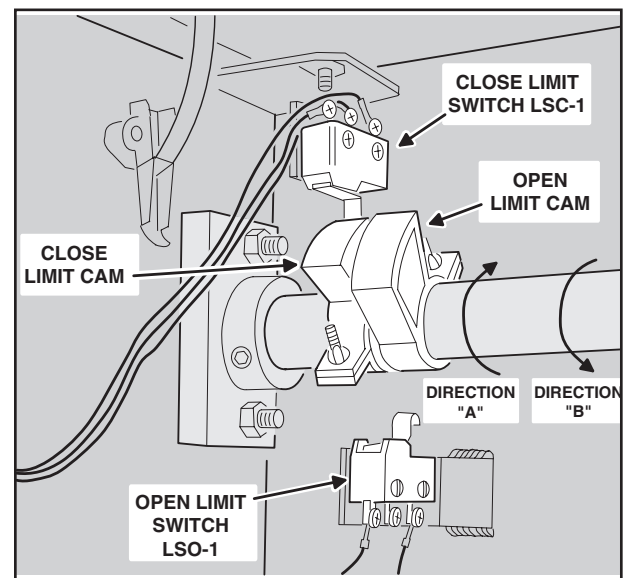

Figure 5. Limit Cam Adjustment
The limit cams for all models of barrier gate operators have been pre-set at the factory for approximately 90 degrees of motion. If you need to adjust this further, see Figure 5 and follow the directions below.
- ✓ **NOTE:** If the barrier gate operator has been custom configured by the factory for reverse arm operation (where the closed barrier arm sticks out from the service door side of the operator) the limit switches shown in Figure 5 will be reversed. The top limit switch will be the open limit, the bottom limit switch will be the close limit.